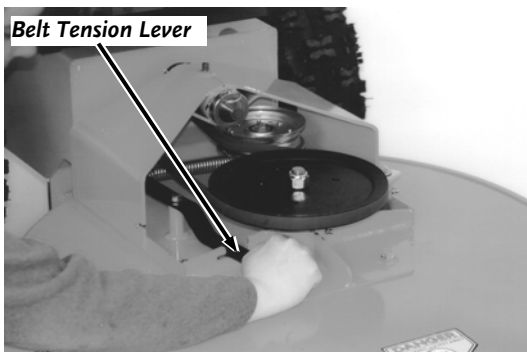

Figure 15
2. Release the Belt Tension Lever (**Figure 15**).